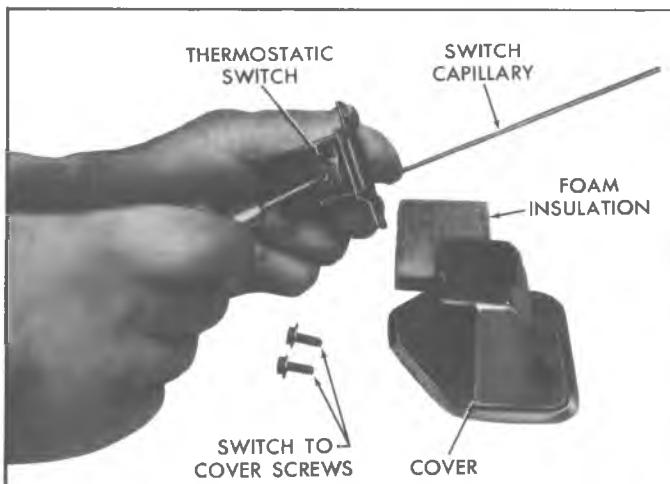

Fig. 53-Thermostatic Switch Adjustment
5. If the outlet temperature was higher than the prescribed temperature at the end of each cooling cycle, turn the adjusting screw a partial turn counterclockwise (fig. 53). If the outlet temperature was lower than prescribed temperature, turn the adjusting screw clockwise.